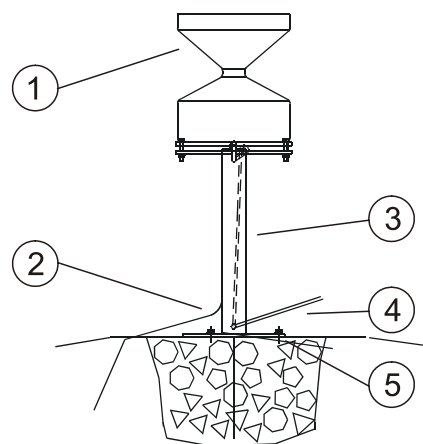

Figure 66 Rain Gauge Installed on a Stand
1. Attach the stand (3) to a concrete foundation with the bolts (5). See Figure 66 on page 80.